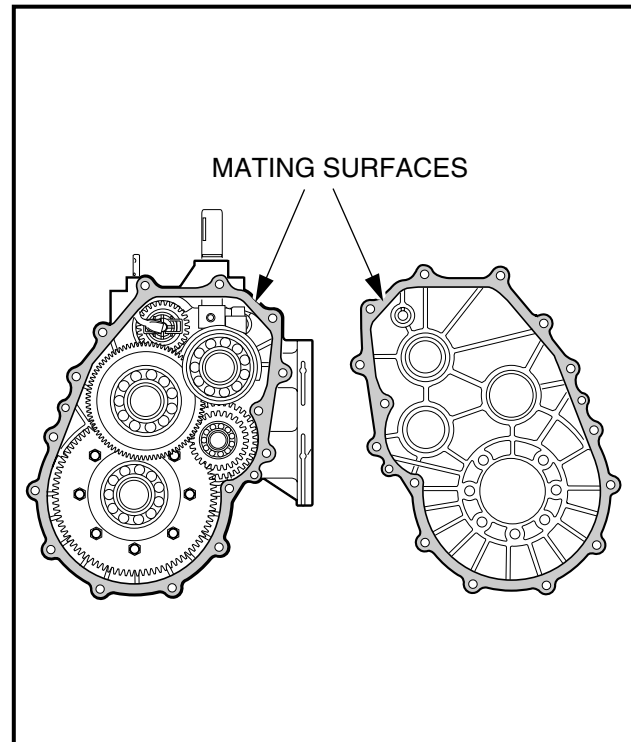

Figure 16b-90 Prepare Mating Surfaces
- 11.3. Apply a continuous bead of Three Bond No. 1215 (CCI P/N 101928701) around the opening on the mating surface of the differential lock housing (transaxle side) **(Figure 16b-92, Page 16b-40)**.